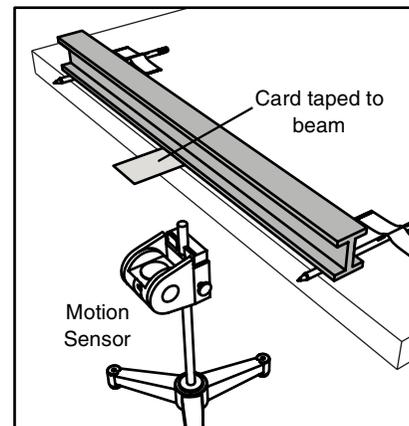

Figure 8: Motion Sensor
- a. Tape a card to the bottom of the I-beam in the center as shown in Figure 8; this card will overhang the edge of the bench and reflect the motion sensor's ultrasonic pulses.